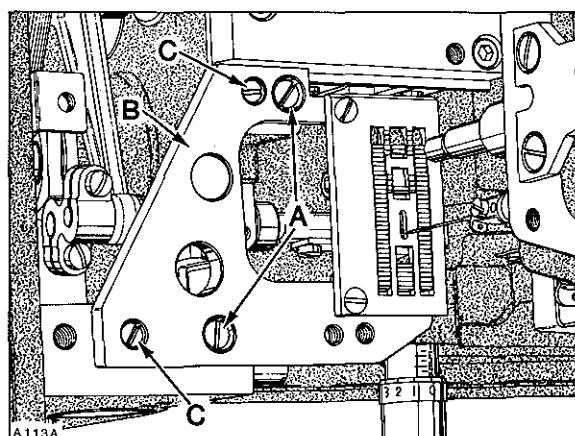

Fig. 12
Feed dog should be centered in throat plate with equal clearance on both sides and ends. At highest point of travel, feed dog teeth should extend the depth of a full tooth, or approximately 3/64 inch (1.2mm) above throat plate. MINOR (right to left) adjustments can be made by loosening two screws (A, Fig. 12) in throat plate support (B). Loosen two screws (C) securing two locating ferrules which allow movement to align throat plate support.